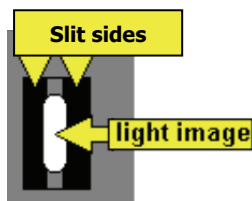

Figure 52 Aligning the light
2. Turn off the voltage to the photomultiplier, as shown in Figure 52.